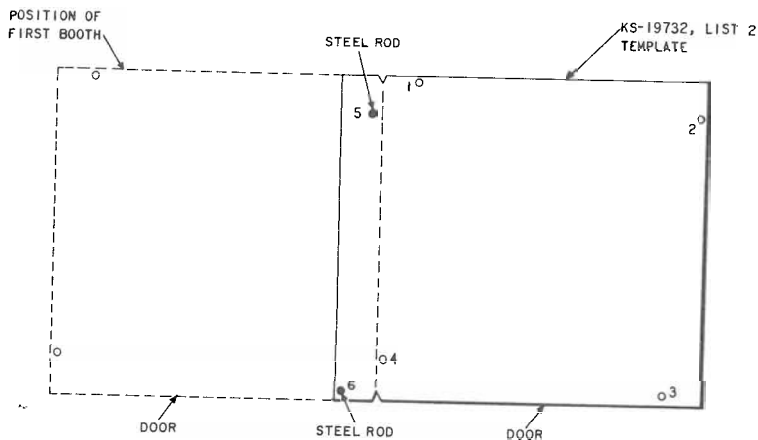

Fig. 12—Left to Right Layout for Drilling Mounting Holes
- 3.17 Use a chalk line and mark the floor where the front edge of the lineup will be (Fig. 12).
- (1) Place KS-19732, List 2 template in the position where the left-hand booth will be mounted with the "V" notches on chalk line. Holes 1, 2, and 5 should be to the left.
- (2) Using the template as a guide, drill 1/4-inch holes at positions 1, 2, 3, and 4 to a depth of approximately 1-1/4 inches.
- (3) Move template to the right and align template holes 5 and 6 with previously drilled holes 3 and 4, respectively (Fig. 12). Insert the two steel rods in these holes.
- (4) Drill 1/4-inch holes at positions 1, 2, 3, and 4 to a depth of approximately 1-1/4 inches.
- (5) If a third booth is to be installed, move template to the right and align template holes 5 and 6 with previously drilled holes 2 and 3, respectively (Fig. 12). Insert the two steel rods in these holes.
- (6) Repeat step (4).
- (7) If additional booth positions are required, repeat steps (5) and (4) respectively.